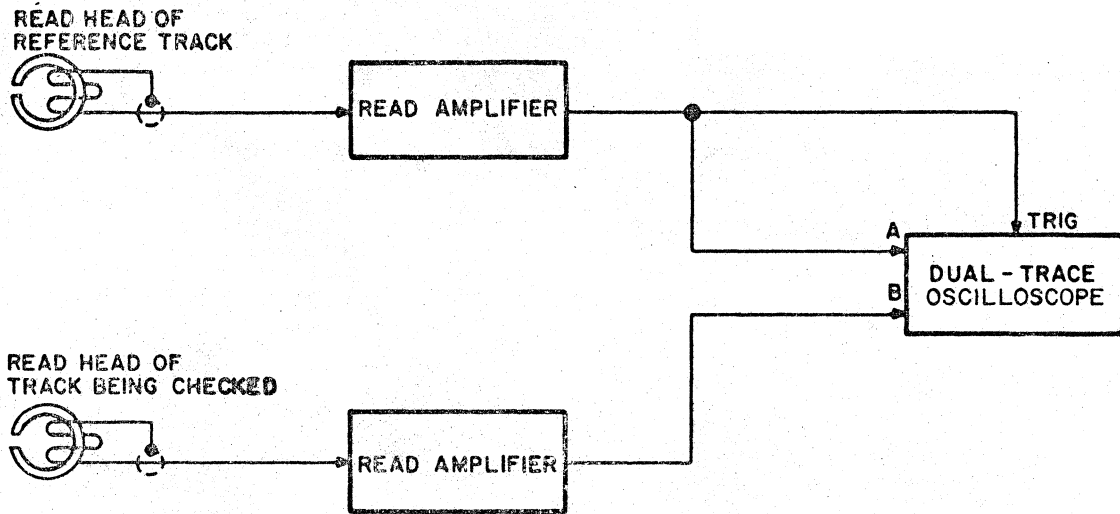

Figure 5-8.
Step 1: Connect the test equipment as shown in Figure 5-8.